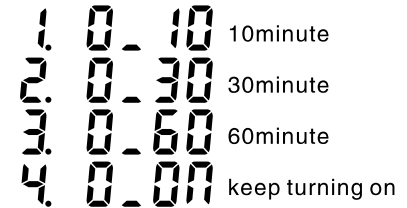

Figure 2–3–2 DC24V time setup
- (1) Please select **7.024V** (output 24V) in the main menu.
- (2) As figure 2–3–2 Screen, screen shows the time options of DC24V output.
- (3) When the selected time is up, the DC24V output is closed automatically.